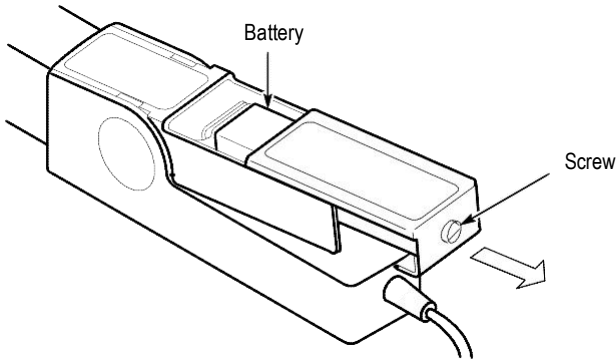

Figure 5: A622 battery compartment
2. Open the battery compartment by loosening the captive screw and sliding the cover off. See Figure 5.